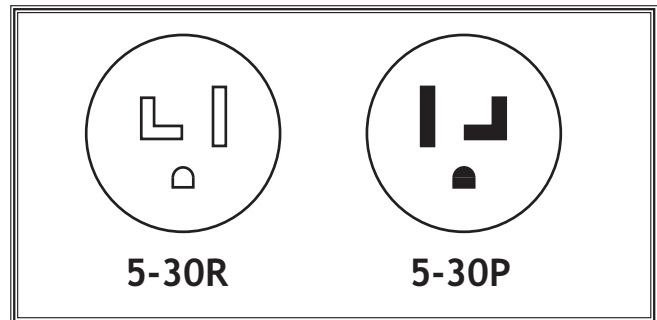

Figure 9b. NEMA 5-30 plug and receptacle.
2. Install a NEMA 5-30 plug and receptacle (see **Figure 9b**).